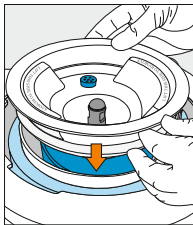

Figure 39
1. Place the Inner DryGuard™ Cone assembly onto the center of the cold water reservoir; make sure the words "LIFT THIS SIDE TO REMOVE" is aligned with the sides of the cooler (Figure 39) and that the filter cap is positioned towards the rear of the cooler.